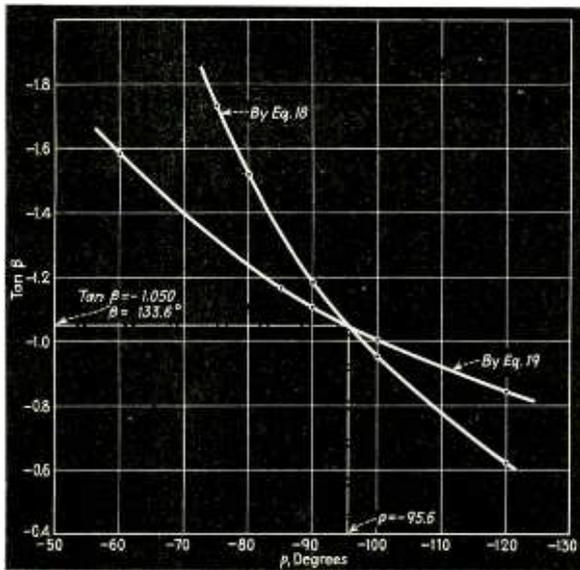

Fig. 8—Curves which determine the duration of current flow through the rectifier elements of Fig. 7 as calculated in Example 3
The curves obtained by plotting Eqs. (18) and (19) for assumed values of ρ are shown in Fig. 8. By graphical solution $\alpha = 38.0^\circ$ and $\beta = 133.6^\circ$. From the boundary condition at $x = \beta$ and $i = 0$